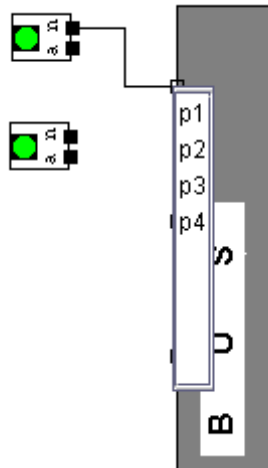

Figure 157 : Creating a link between a single type and a record type flow
- ♦ Use the mouse to draw a graphical link between an input port and an output port. When the link is created, user can insert breakpoint with the mouse to customize the link shape (Figure 157).